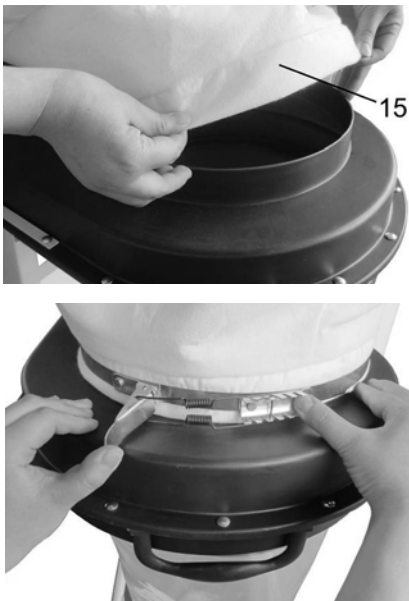

Fig. 10: Dust bag and quick release device
Step 8: Put the dust bag (15) over the upper opening of the plastic housing so that it completely surrounds the opening and secure it with the quick release device (Fig. 10).